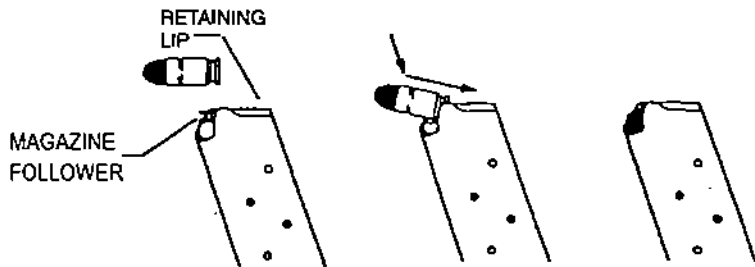

FIGURE 3 - LOADING MAGAZINE
3. With open end uppermost, grasp the magazine in one hand. Place a round on the magazine follower with the base of the round just forward of the retaining lips (see Figure 3). Press the round down and back until the base of the round touches the rear flat edge of the magazine.